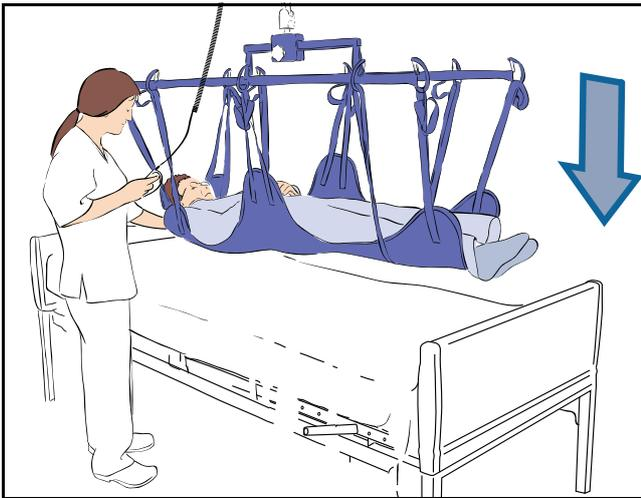

Fig. 16
- 10) Lower the patient down onto the new location (see Fig. 16).